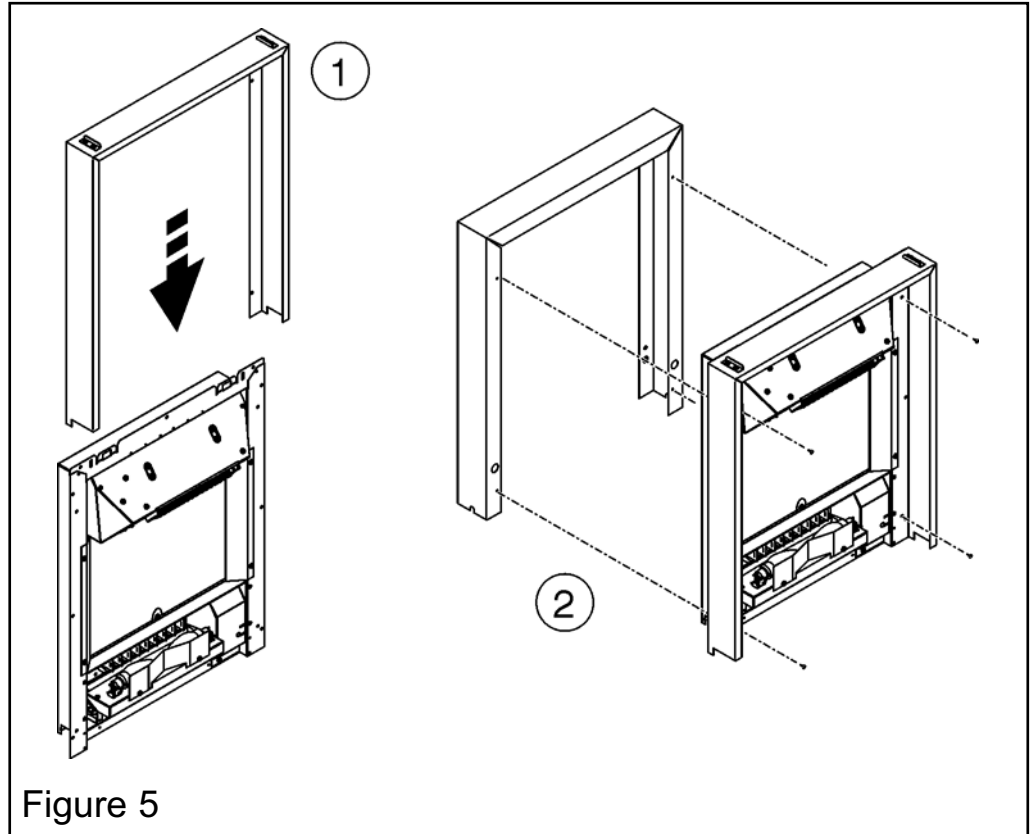

Figure 5
(See figure 5).
**1.** Position the front spacer so that the narrow flange is at the front. Hold the spacer above the heater and lower it over the heater side flanges (See point 1 - figure 5). Position the spacer so its rear flange rests against the rear of the heater side flanges.
**2.** The rear spacer has raised dimples. These should be at the rear of the heater and not against the heater flange. Locate the spacer frame as in point 2 - figure 5 and secure in place using four No.8 x 3/8 screws supplied. The screws will secure both the front and rear spacer.